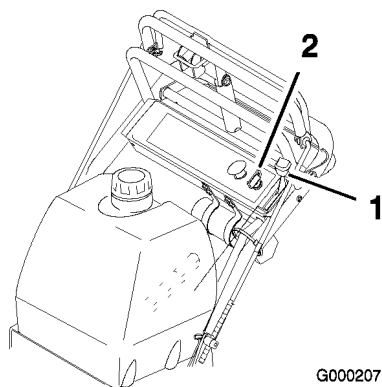

Figure 19
1. Move the throttle lever to the **slow** position (Figure 19).
3. Turn the ignition key to **off** (Figure 19).